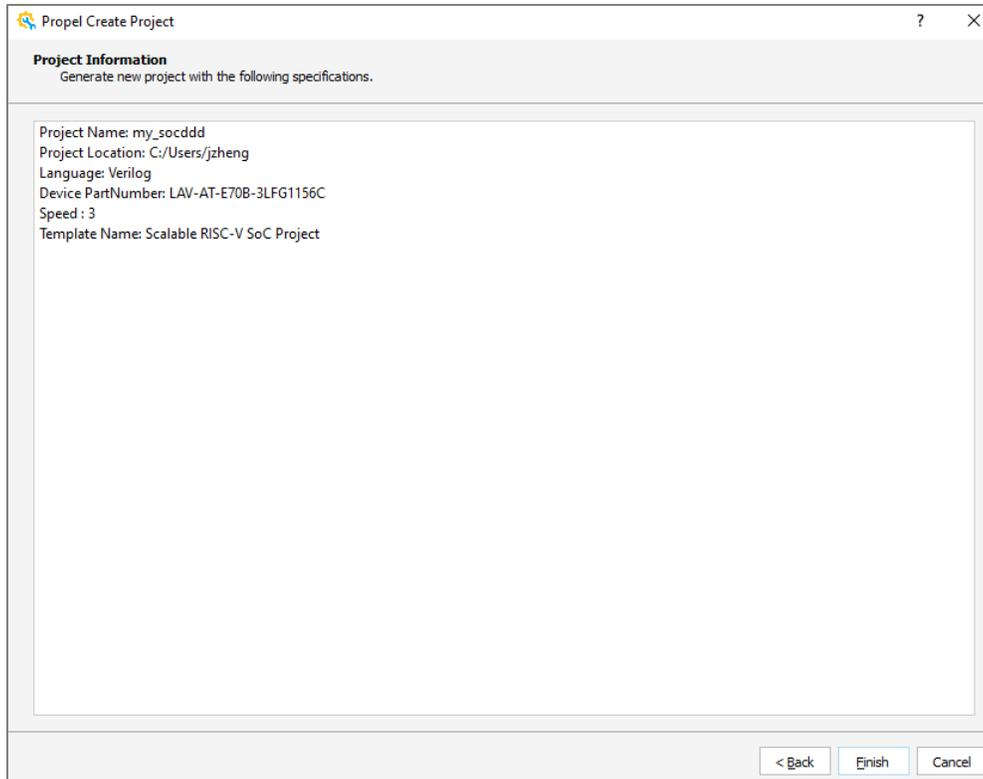

Figure 2.26. Scalable Wizard – Project Preview
6. In Project Information Page, it shows the info for this project (Figure 2.26). Click **Next**.